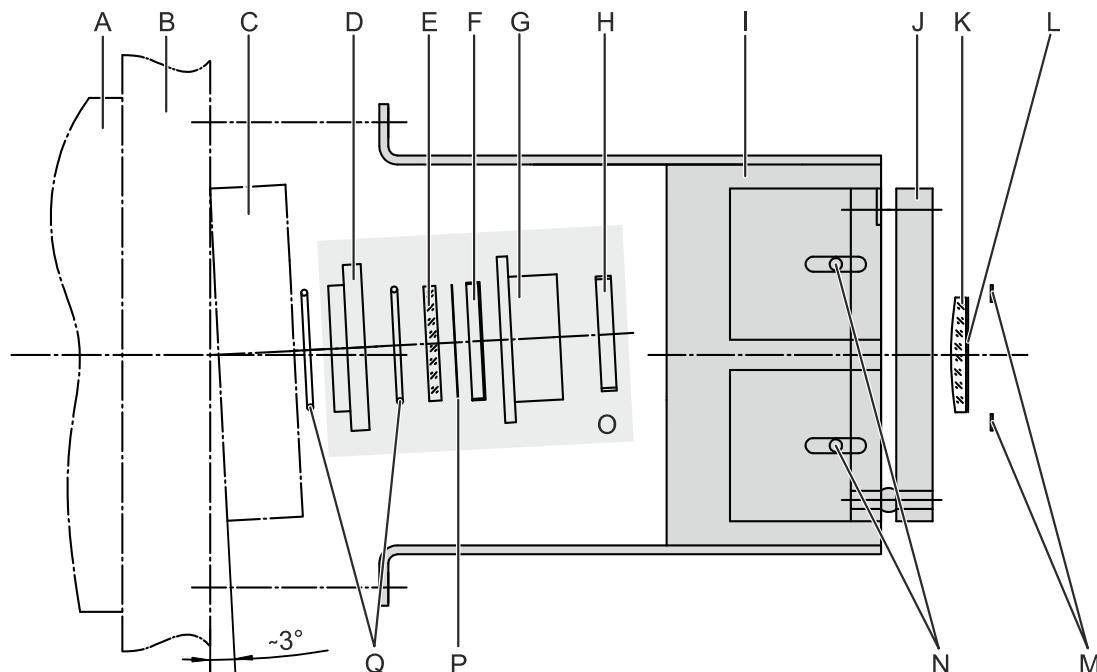

Figure 104: Unstable resonator cavity window and HR mirror installation (top view)
12. Follow the procedure in Section 7.6.2 on page 205 to remove the HR rear mirror from the optics mount assembly (see Figure 104, O) and insert the uncoated MgF₂ cavity window (E).
Key to Figure 104:
10. Tilt the window alignment plate horizontally to the stop. This corresponds to a tilting angle of approx 3° (see Figure 104, C on page 218).
In each case, switch off the laser and remove the rear access panel to enable length adjustment. The length is adjusted by using the 8 mm wrench to loosen the hex head screws of the adjustable extension piece (see Figure 104, N on page 218), setting the resonator extension to the desired length and tightening the hex head screws.